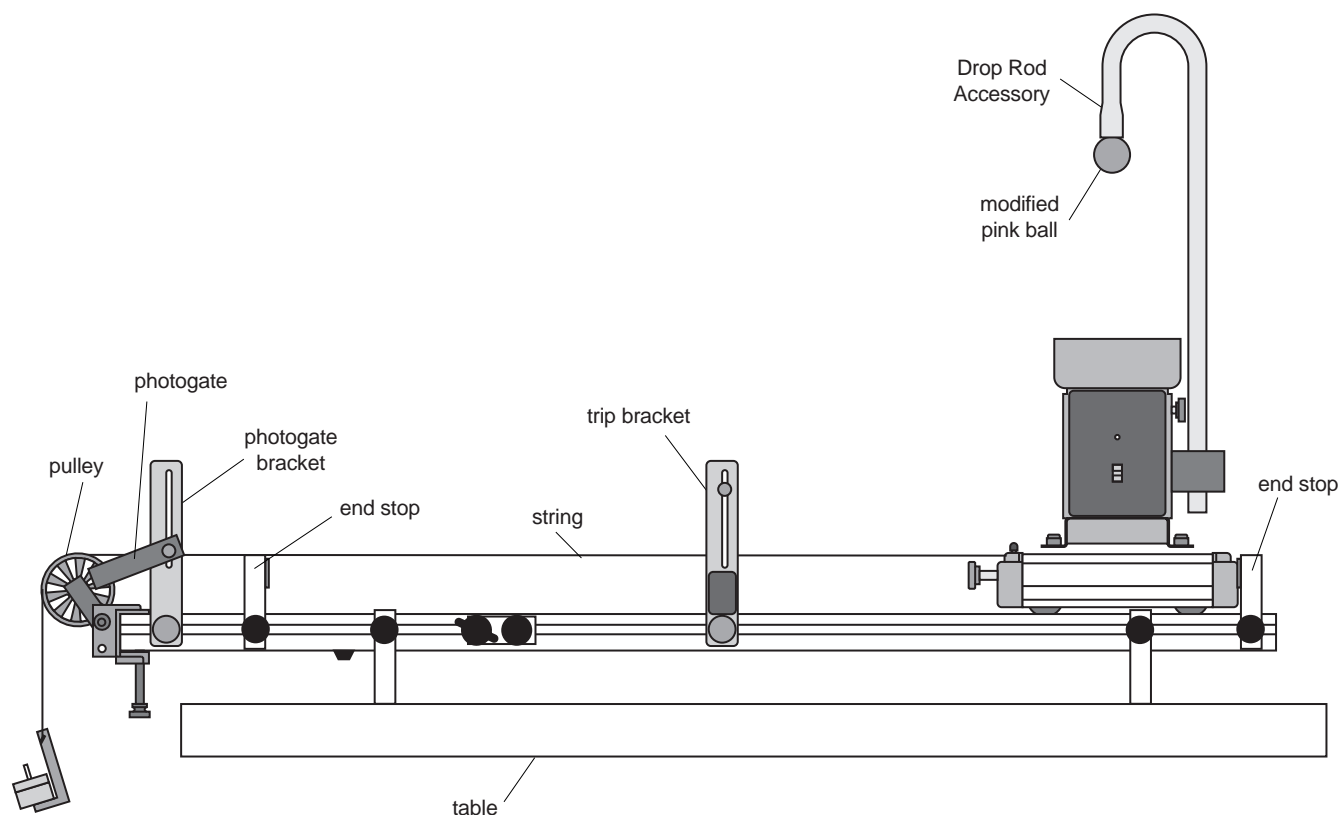

Figure 9.1: Smart Pulley Setup for Bombing Run
- ⑤ Clamp the pulley on the end of the track. Position the photogate and its bracket over the clamp-on pulley so it acts as a Smart Pulley. See Figure 9.1.
- ⑥ Tie one end of a 2.2-meter long string to the cart and pass the other end over the pulley and hang about 200 g on it.
- ⑦ Move the cart toward the pulley until the mass just touches the floor. Then place the trip bracket at the cart's position. This will cause the cart to drop the ball after the cart has reached its constant speed. Note that the stiff string will continue to move forward and not bunch up under the cart. This is the reason for not using thread.
- ⑧ Without hanging the ball on the drop rod, pull the cart back against the end stop and release it from rest. Record data with the computer and determine the maximum speed, v , of the cart.